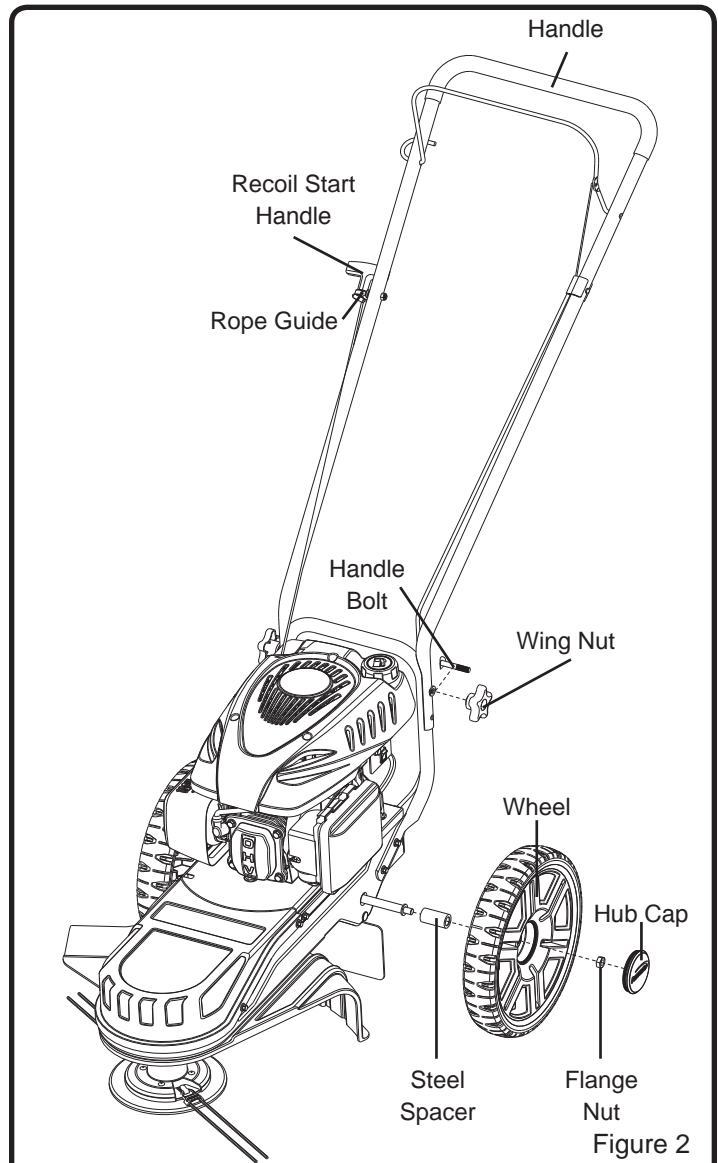

Figure 2
**NOTE:** Refer to Figure 2 when following the steps below